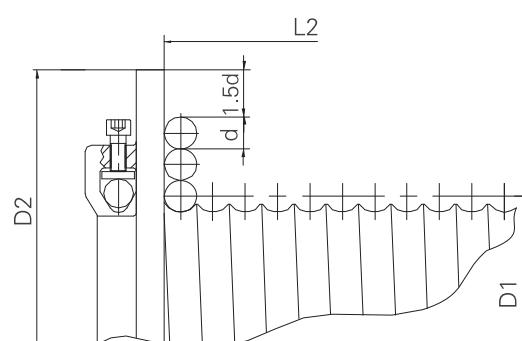

图5/ Figure 5
4.4 卷筒和钢丝绳相关计算 (图5) :
4.4 The related calculations between drum and rope (figure 5):